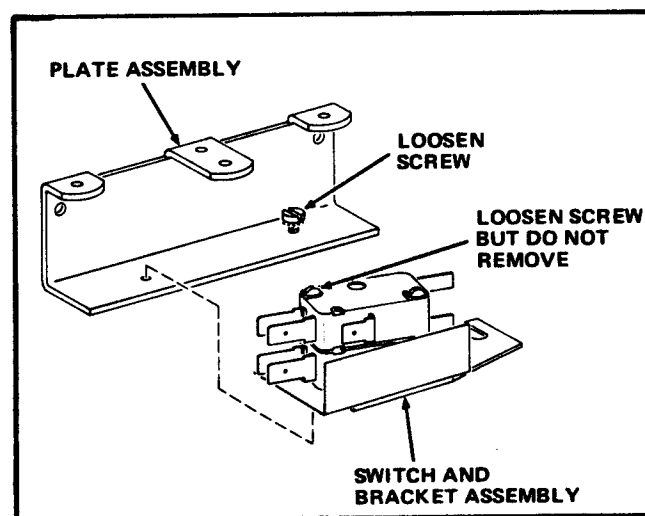

FIGURE 21
- a. Loosen the Screw that attaches the Switch and Bracket Assembly to the Plate Assembly. See Figure 21.
- b. Loosen, but do not remove, the Screw that goes through the Switch Assembly at the terminal end of the Switches. Do not remove the Switches from the Bracket. See Figure 21.